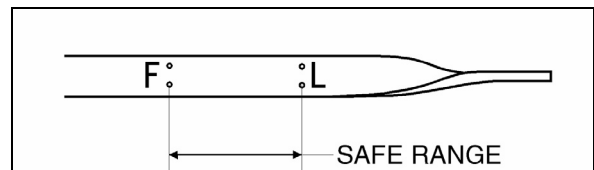

FIGURE 20: ENGINE OIL LEVEL DIPSTICK 01027
Check the oil level daily with the engine stopped. If the engine has just been stopped and is warm, wait at least 10 minutes to allow the oil to drain back to the oil pan before checking. Wipe the dipstick clean then check oil level. The level should always be within the safe range on the dipstick (Fig. 20). Add the proper grade of oil to maintain the correct level on the dipstick. All diesel engines are designed to consume some oil, so a periodic addition of oil is normal.
8. Remove the engine-oil filler cap and pour oil in the engine until it reaches the "FULL" mark on the dipstick (Fig. 20).
10. Add oil as required to bring the level within the safe range on the dipstick (Fig. 20).